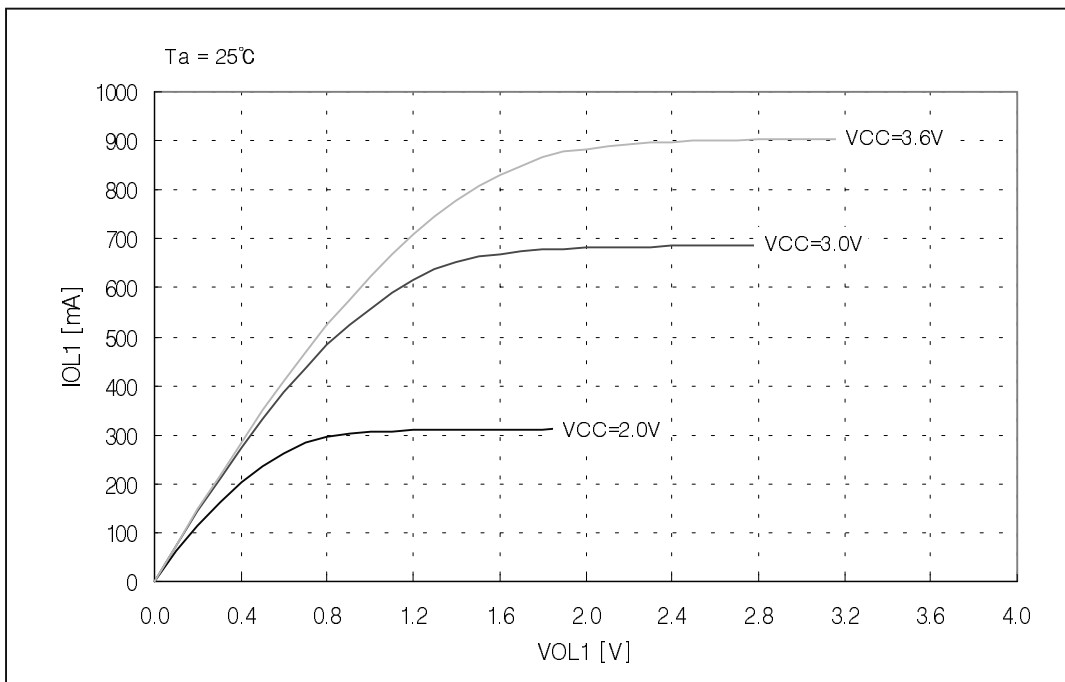

Fig 1-6. I_{OL1} vs. V_{OL1} Graph. (REMOUT port)
*2 Refer to < Fig.1-6 I_{OL1} vs. V_{OL1} Graph >